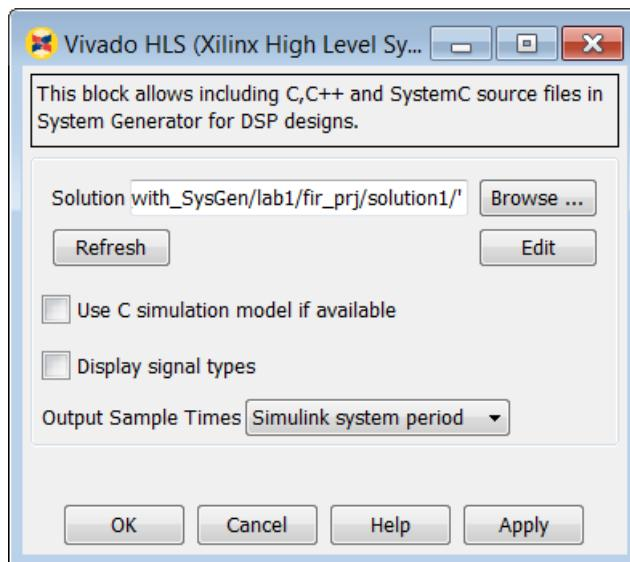

Figure 256 Selecting the FIR IP Block
8. Navigate into the fir_prj project and select the solution1 folder. (Figure 256)